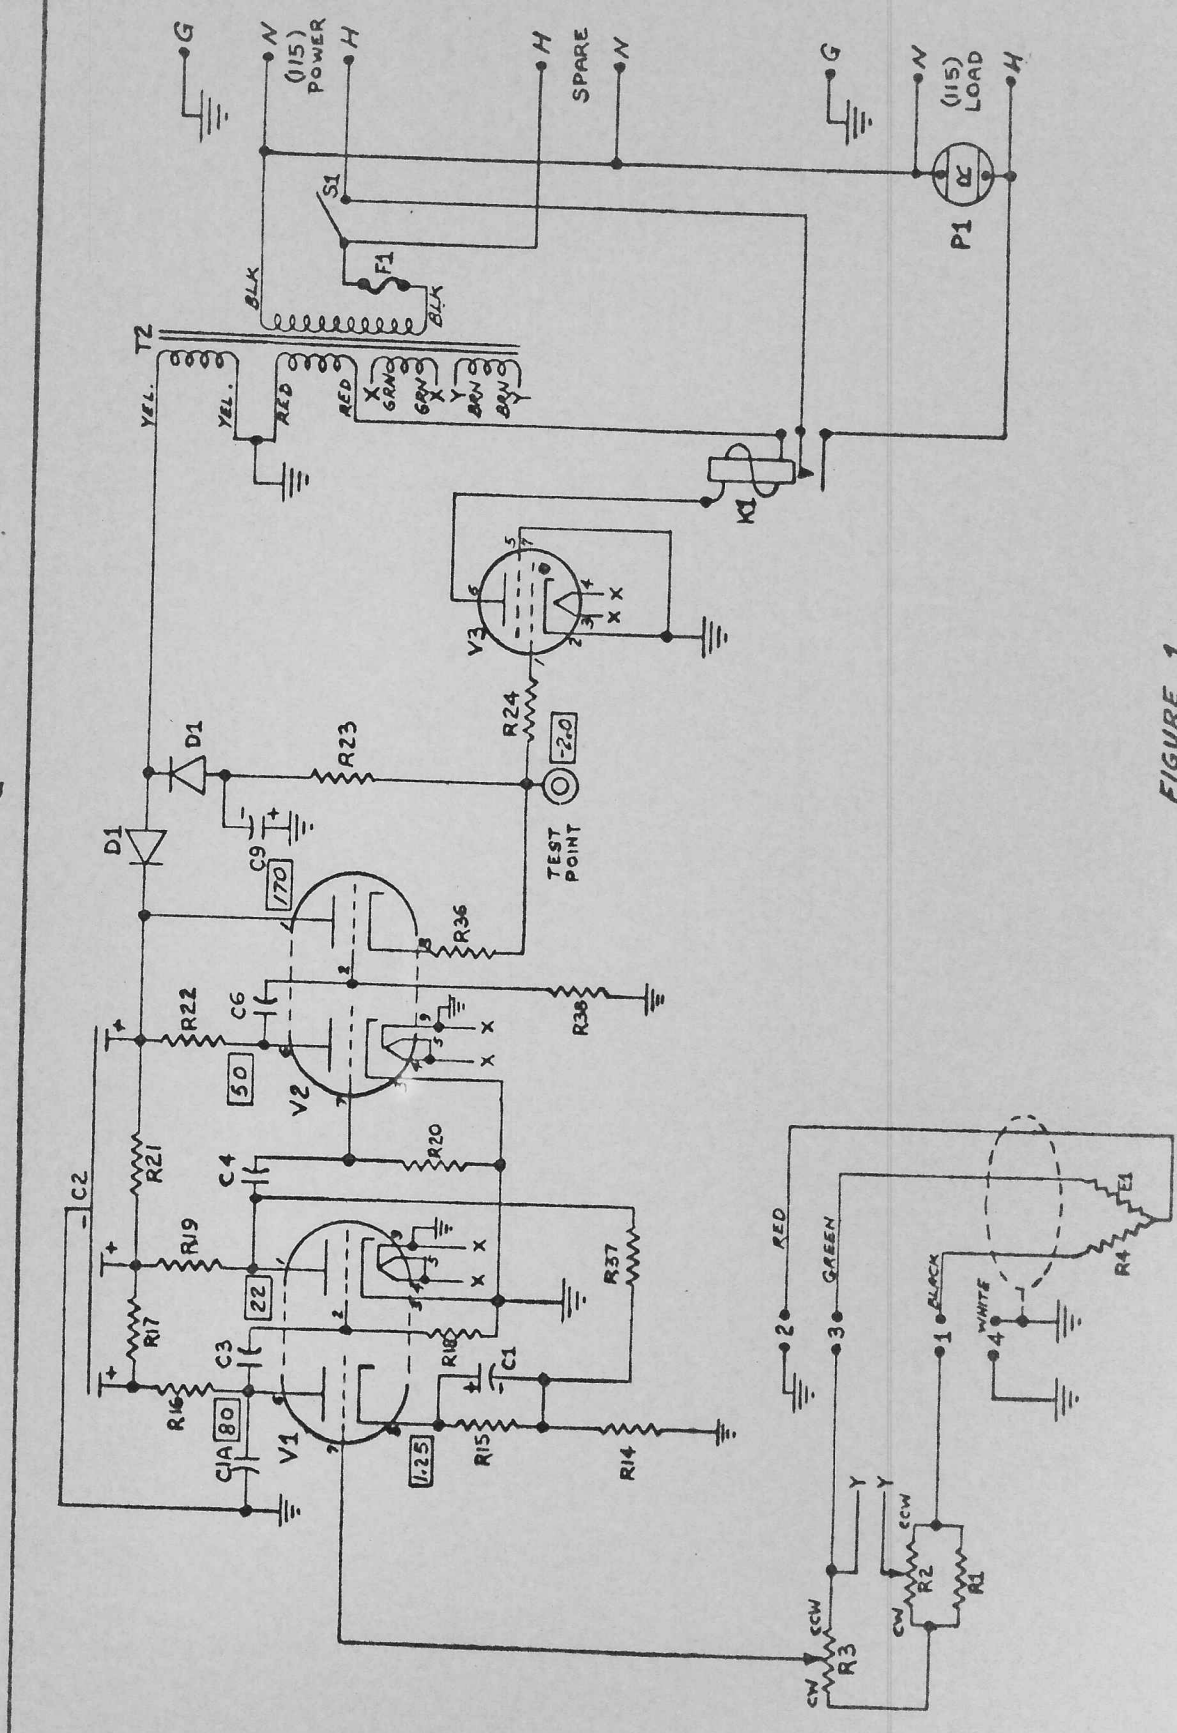

FIGURE 1
FIGURE 1, the wiring diagram of the RESISTOTROL, has the check voltages recorded. All DC measurements are made with a 20,000 ohm per volt meter. The DC voltages are indicated by a rectangle and the AC voltages by parenthesis. All the test points are easily accessible on the tube sockets.
* Model 1215 - FIGURE 1